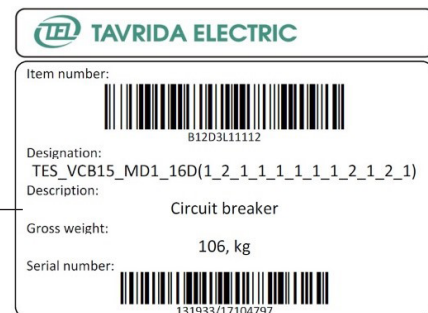

Figure 19
- Labels for manufacturers and product information (Figure 19).